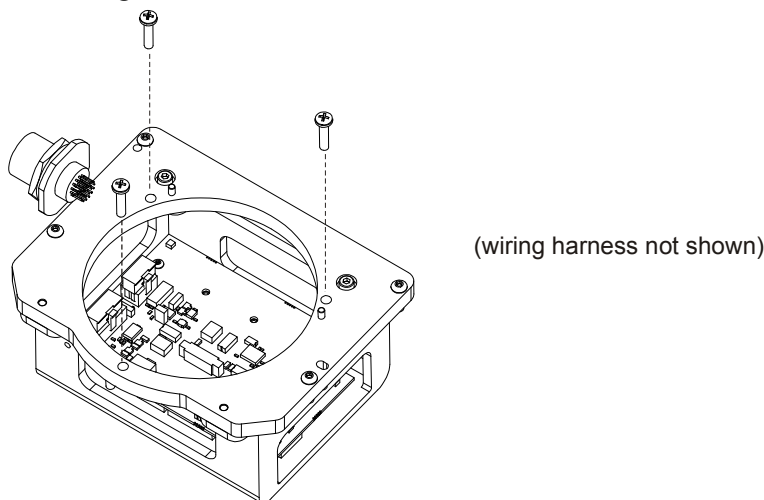

Figure 47: Remove IMU Mounting Screws
1. Using a Phillips screwdriver, remove the 8-32 IMU mounting screws from the IMU mounting plate, as shown in *Figure 47*: